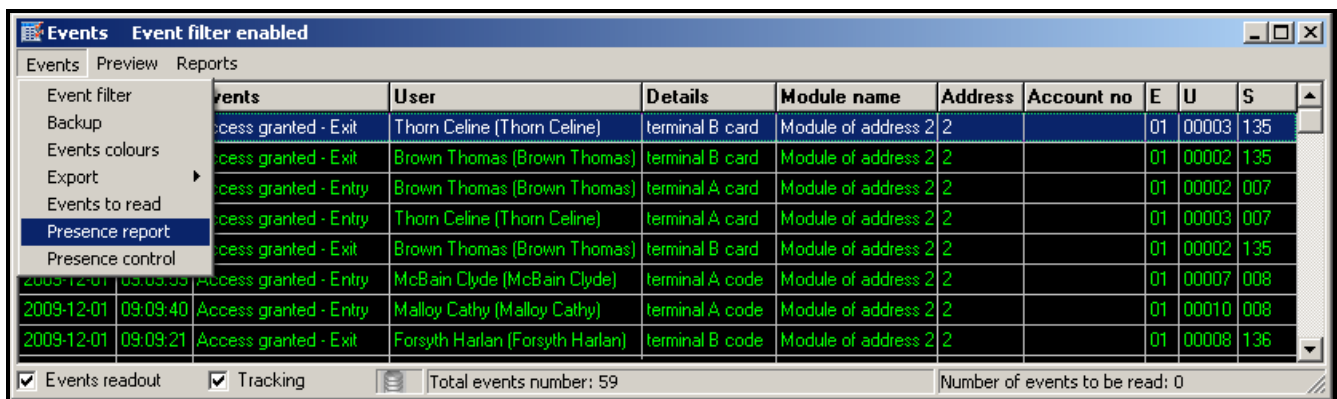

Fig. 33. PRESENCE REPORT command in the EVENTS window.
- open the EVENTS window, then select the EVENTS command to open the menu and select PRESENCE REPORT in it (see Fig. 33);
- open the EVENTS window, then select the EVENTS command to open the menu and select PRESENCE CONTROL in it (see Fig. 33);